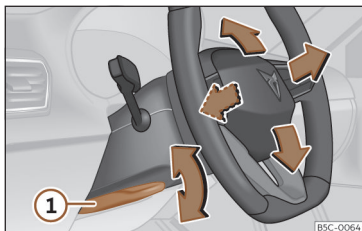

Fig. 72 Lever in the lower left side of the steering column.
- Pull the »» **Fig. 72** ① lever down, move the steering wheel to the desired position and lift the lever back up until it locks.
- After adjusting the steering column, push the lever »» **Fig. 72** ① firmly upwards to ensure the steering wheel does not accidentally change position while driving.